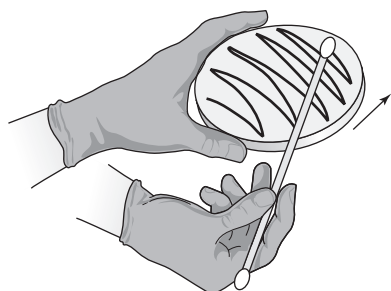

FIG. 10.11.
- a. Smear the swab across the middle of the plate and then continue the smear in a zigzag pattern across the plate away from you. Make sure you overlap previous areas and touch the sides of the plate as you go (Fig. 10.11).